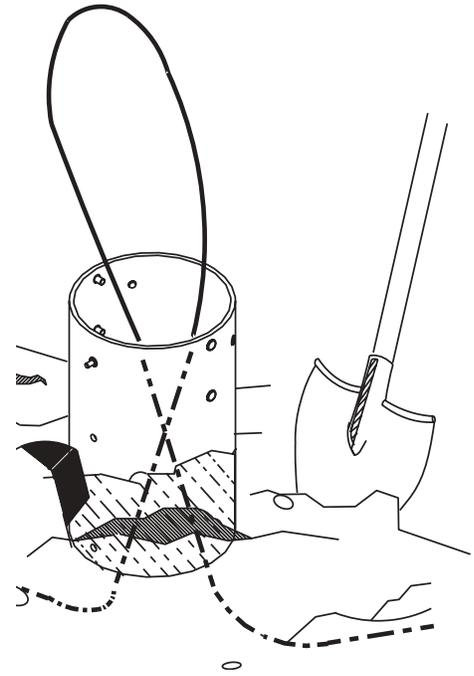

Figure 6
- Step 1** Back fill the dirt around the pedestal firmly to ensure the base does not move (Figure 6). Replace the dirt on the inside of the pedestal to a level 7 inches below the top lip of the base.